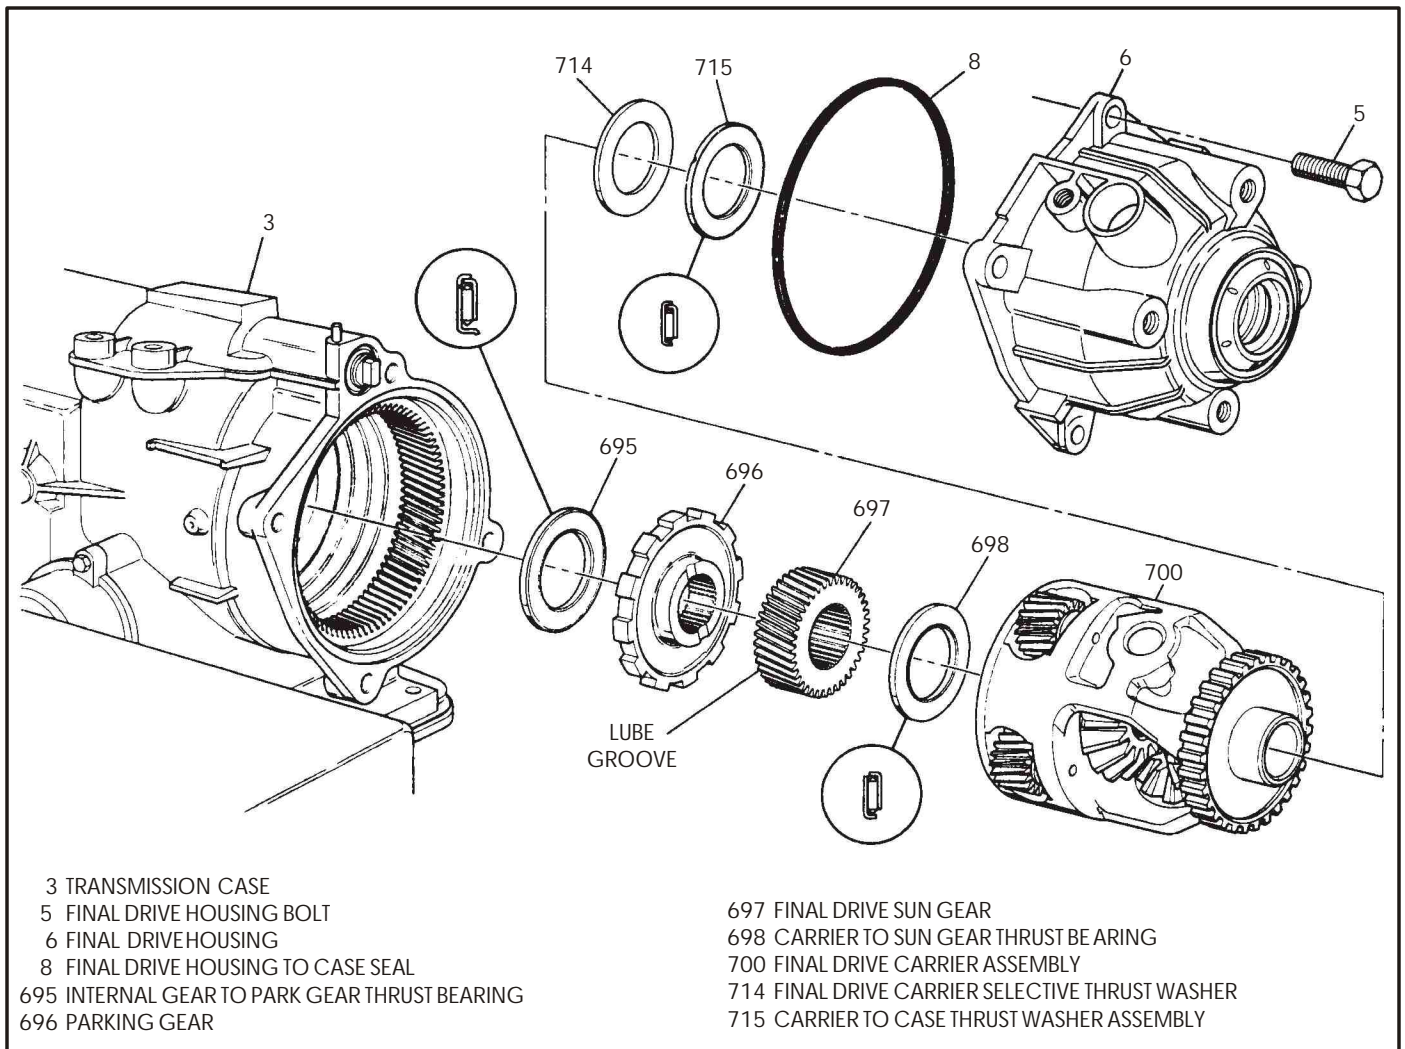

Figure 148
5. Rotate the transaxle to install the final drive, as shown in Figure 148.
6. Install the park gear thrust bearing (695) onto the final drive ring gear in direction shown in Figure 148, and retain with petrolatum.
7. Install thrust bearing (698) into the final drive carrier in direction shown in Figure 148.
8. Install the final drive sun gear into the carrier with the step on the internal spline area facing up, as shown in Figure 148.
9. Install the parking gear (697) on top of final drive sun gear, as shown in Figure 148.
11. Install the final drive selective thrust washer (714) onto the final drive carrier, as shown in Figure 148.
12. Install the final drive thrust bearing (715) onto the final drive carrier in the direction shown in Figure 148.